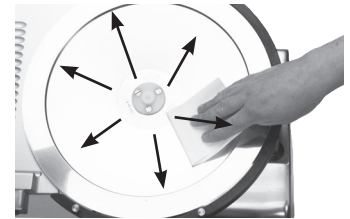

Figure 13-2
12. The knife must also be cleaned and sanitized. **Carefully** wash and rinse the top and bottom of knife by wiping from the **center of knife outward** (Fig. 13-2). Spray both sides of knife, slicer table and the entire slicer base with a non-bleach, non-chlorine sanitizer following the instructions on your quaternary sanitizer container to make sure proper sanitation is achieved. Allow slicer parts to air dry.